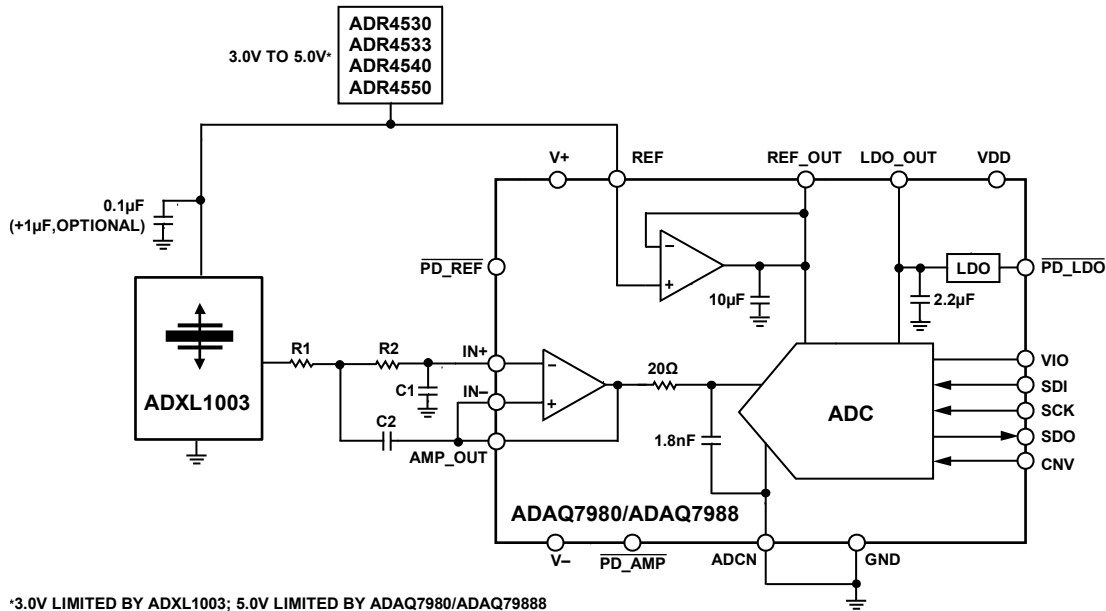

Figure 23. Application Circuit for the ADXL1003
See Figure 23 for an example of the interface, including components when measuring mechanical vibration from 0 kHz to 5 kHz. For a 5 kHz pass band, a single-pole resistor capacitor (RC) filter is acceptable. However, in some applications, use of a more aggressive filter and lower sample ADC sample rate is possible. The following components are recommended to form a 5 kHz low-pass RC filter at the output of the ADXL1003 when interfacing to an ADC, such as the ADAQ7980:  $R1 = 5\text{ k}\Omega$ ,  $C1 = 5\text{ nF}$ ,  $R2 = 0\ \Omega$ , and  $C2$  are not required. A minimum ADC sample rate of 20 kHz is recommended to avoid aliasing. When using sampling rates less than the resonance frequency (typically 28 kHz), be aware and account for the effective gain at the output of the sensor due to the resonance to ensure out of band signals are properly attenuated and do not alias into the band.
See Figure 23 for an example of the interface, including components when measuring mechanical vibration from 0 kHz to 10 kHz. The following components are recommended to form a two-pole RC filter at the output of the ADXL1003:  $R1 = 5\text{ k}\Omega$ ,  $C1 = 2\text{ nF}$ ,  $R2 = 5\text{ k}\Omega$ , and  $C2 = 2\text{ nF}$ . A minimum ADC sample rate of 200 kHz is recommended to avoid aliasing.